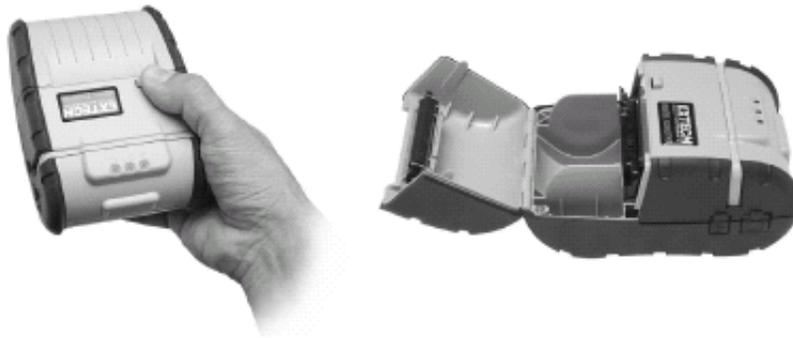

FIGURE 6: OPENING PAPER DOOR
- Press Paper Door Release button. The door will open slightly. Open rest of the way as shown in Figure 6.
- Grip either side of the paper door and open – it will open to 180 degrees. See figure 6.